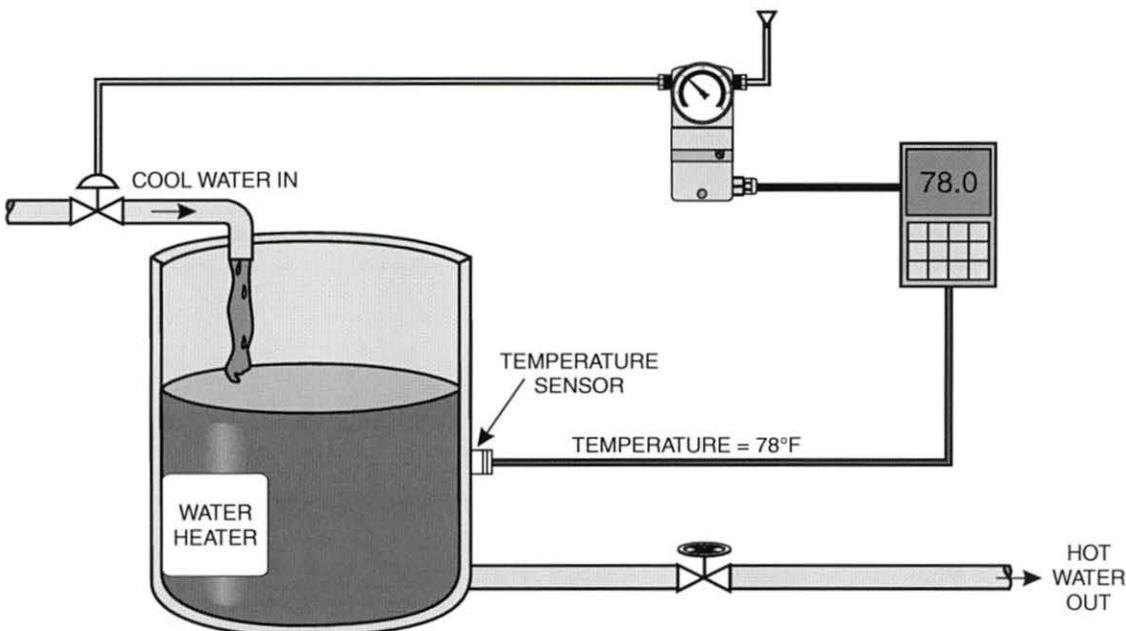

Figure 14. Temperature Control Process with Temperature at  $78^{\circ}\text{F}$
1. Determine the accuracy of the process shown in figure 14 as a factor of the measured variable, given the following information: